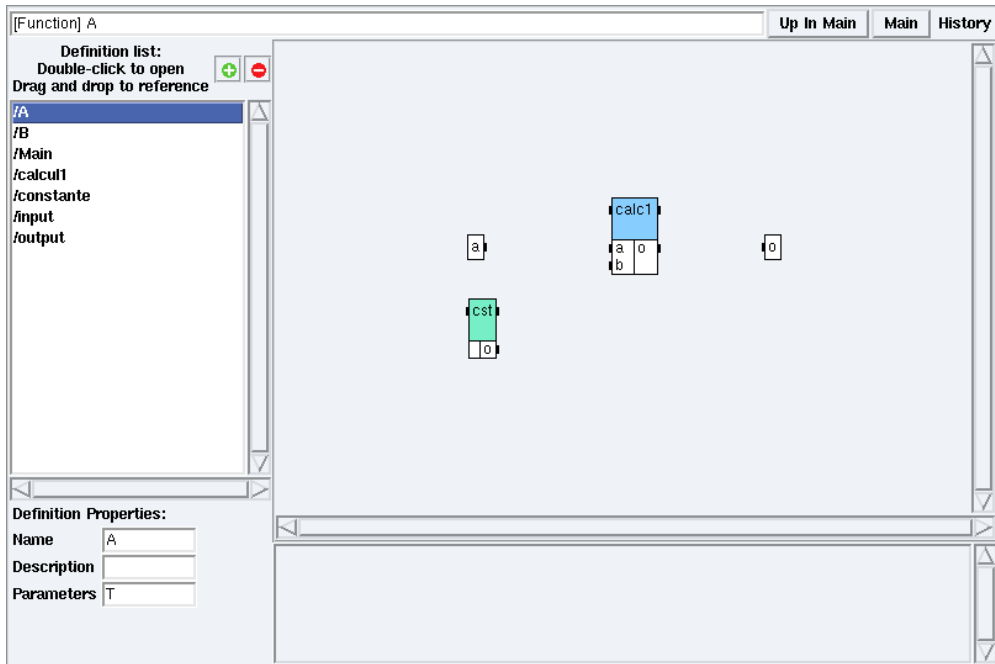

Figure 2.1: Parameters
- add a parameter name (cf. figure 2.1): Field **Parameters** → T.